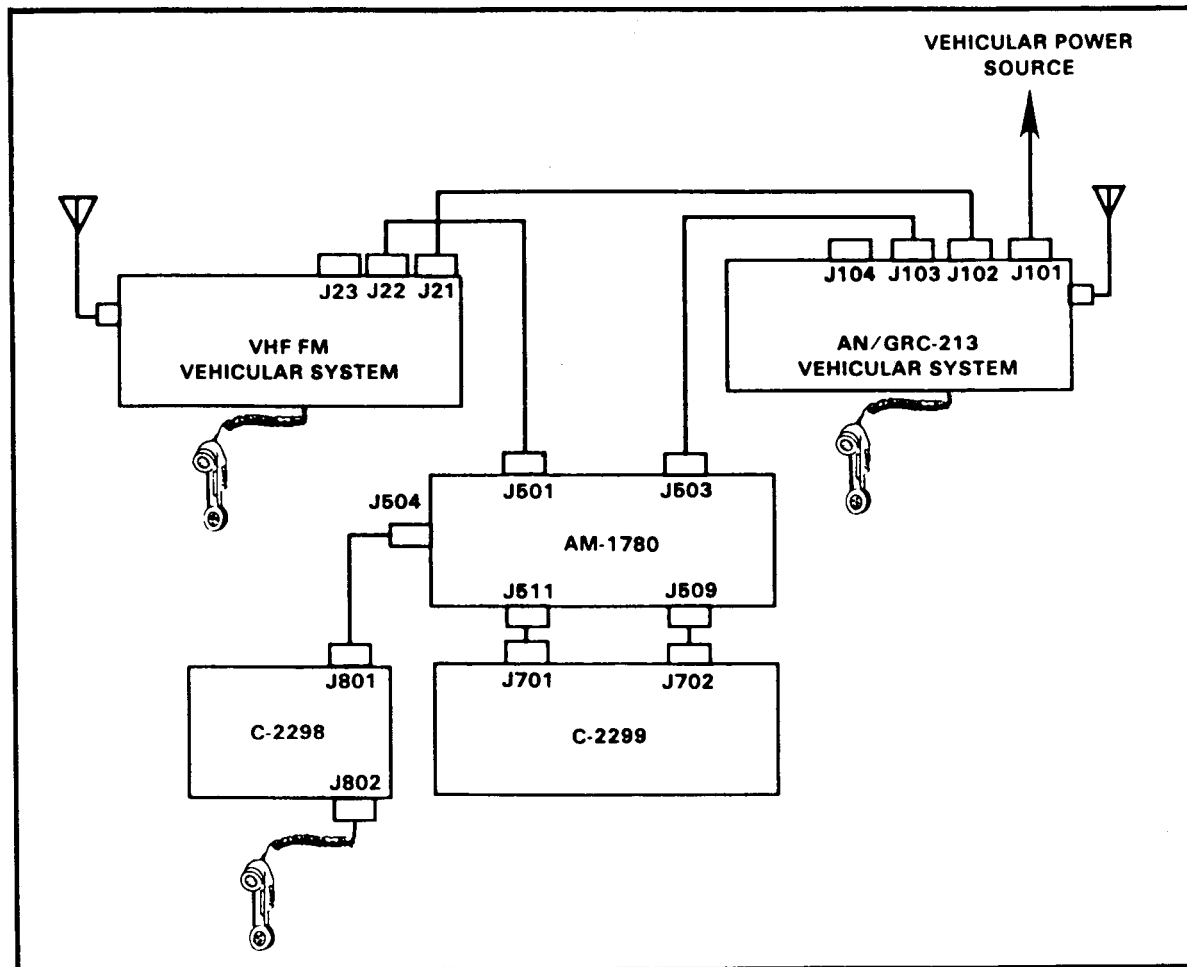

Figure 1-20. Cabling diagram for retransmission operation.
- b. The radio set can be mounted in a wheeled or tracked vehicle, or installed in a fixed location, such as a building or tent. When installed in a fixed location, a power supply capable of providing 24 to 32 volts DC (26.5 VDC nominal) must be used (for example, Generator Set 3 kW, 29 VDC, or Battery Charger PP-1451/G or similar power supply). In vehicles equipped with the Intercommunications Set (Intercom) AN/VIC-1, automatic retransmission is possible from any single sideband radio, such as the AN/GRC-213, to any FM radio, such as the AN/VRC-12 series (Figure 1-20).